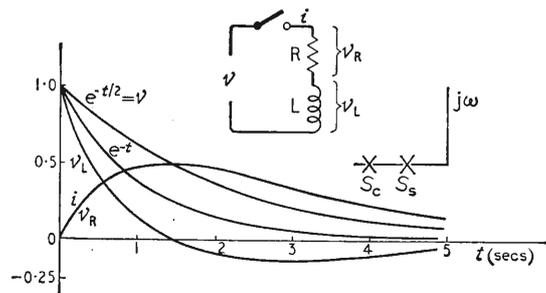

Fig. 8. Curves of excitation and response of a series RL circuit to a Fig. 2 source having half the "frequency."
It is quite interesting to plot the responses (3) and (5). For simplicity let us choose  $R = L = T = 1$ , so  $s_c = -1$ . And for a source voltage of Fig. 2 form but different complex frequency let  $s_s = -\frac{1}{2}$ ; this puts the source pole half-way between the origin and the circuit pole. In other words, the forced response takes twice as long to die away as the free response. In Fig. 8 this form,  $v$ , is shown, and also  $e^{-t}$  for comparison. The total response,  $i$ , is plotted from (3); it starts from zero because the free and forced responses exactly cancel out when  $t = 0$ . Since  $R = 1$ , the same curve does for  $v_R$ , the voltage across  $R$ . That is an example of economy of effort. Since  $v_L$ , the voltage across  $L$ , is what is left, it is plotted by subtracting  $v_R$  from  $v$ , with the result shown. Note that it becomes negative, owing to the inertia effect of  $L$ , so that after 1.4 seconds the voltage across  $R$  is actually greater than that provided by the source.